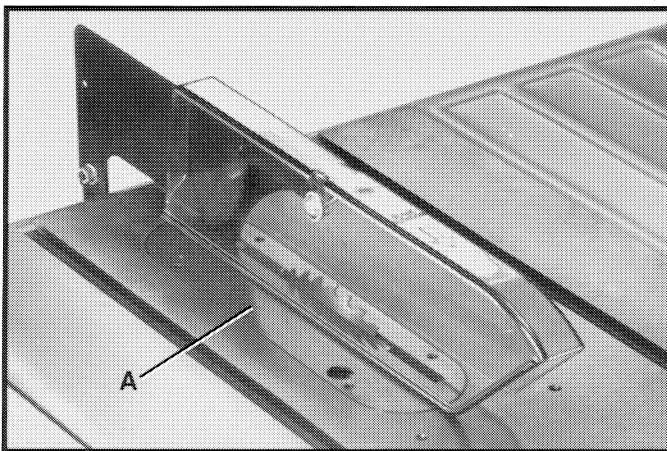

Fig. 51
2. Fig. 51, illustrates insert (A) assembled to the table.